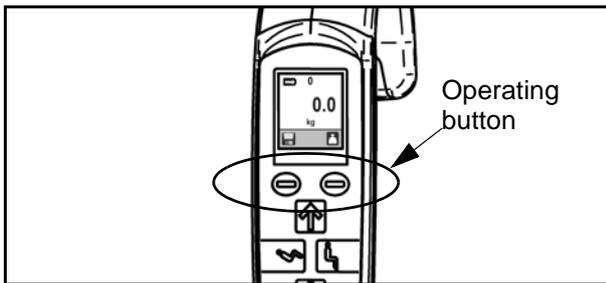

Fig. 67
- At start-up, press both operating buttons for the scale at the same time (see Fig. 67).